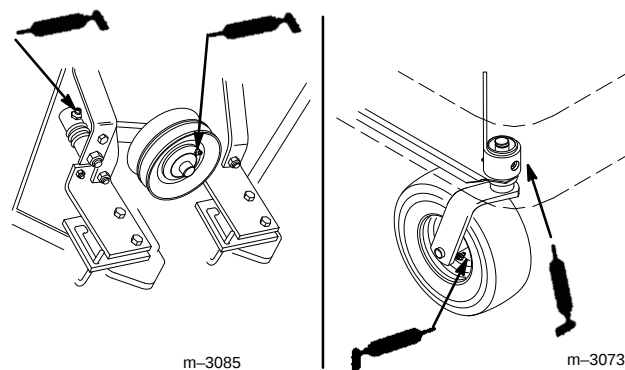

Figure 21
1. Lubricate the wheel bearings and front spindles until grease begins to ooze out of the bearings (Fig. 21).